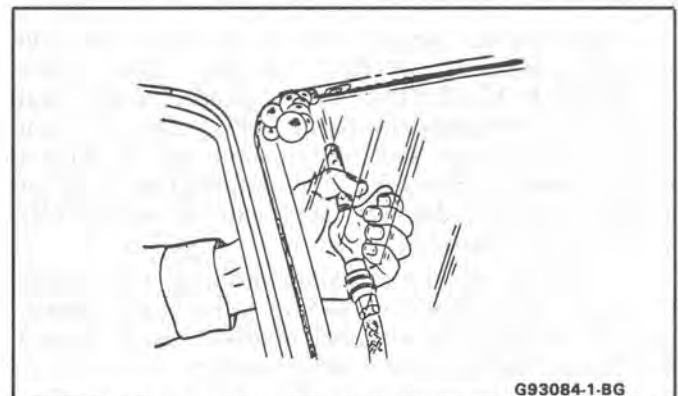

Fig. 9-Air Hose and Bubble Solution Test of Windshield Glass Sealant
- Apply bubble solution (liquid soap) to suspected area (Fig. 9).